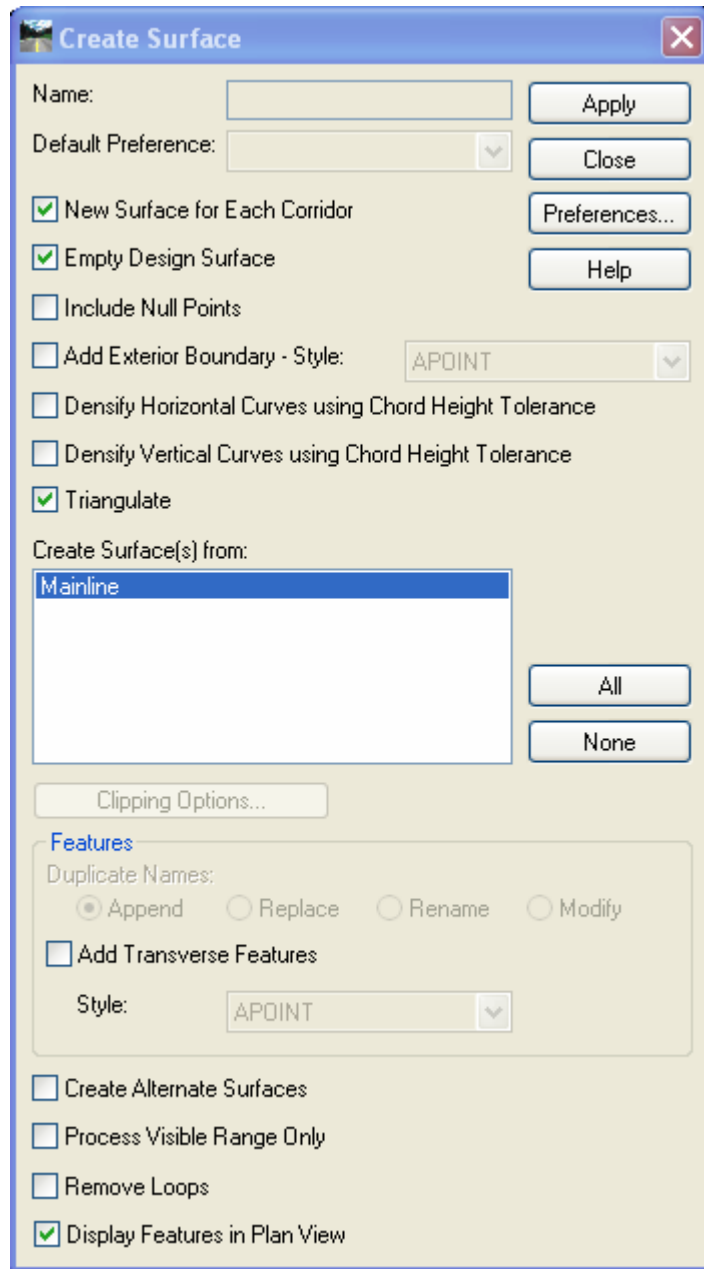

Figure 7-5 InRoads Create Surface Dialog Box
- C. From the **Create Surface** dialog box, select the one corridor to be created for the surfaces. For this example, select the **mainline**. If there are several corridors defined, they will all be selected automatically. Note: This dialog will run all corridors if not indicated by the user! Therefore, select only the corridors that are required. As shown in Figure 7-5.